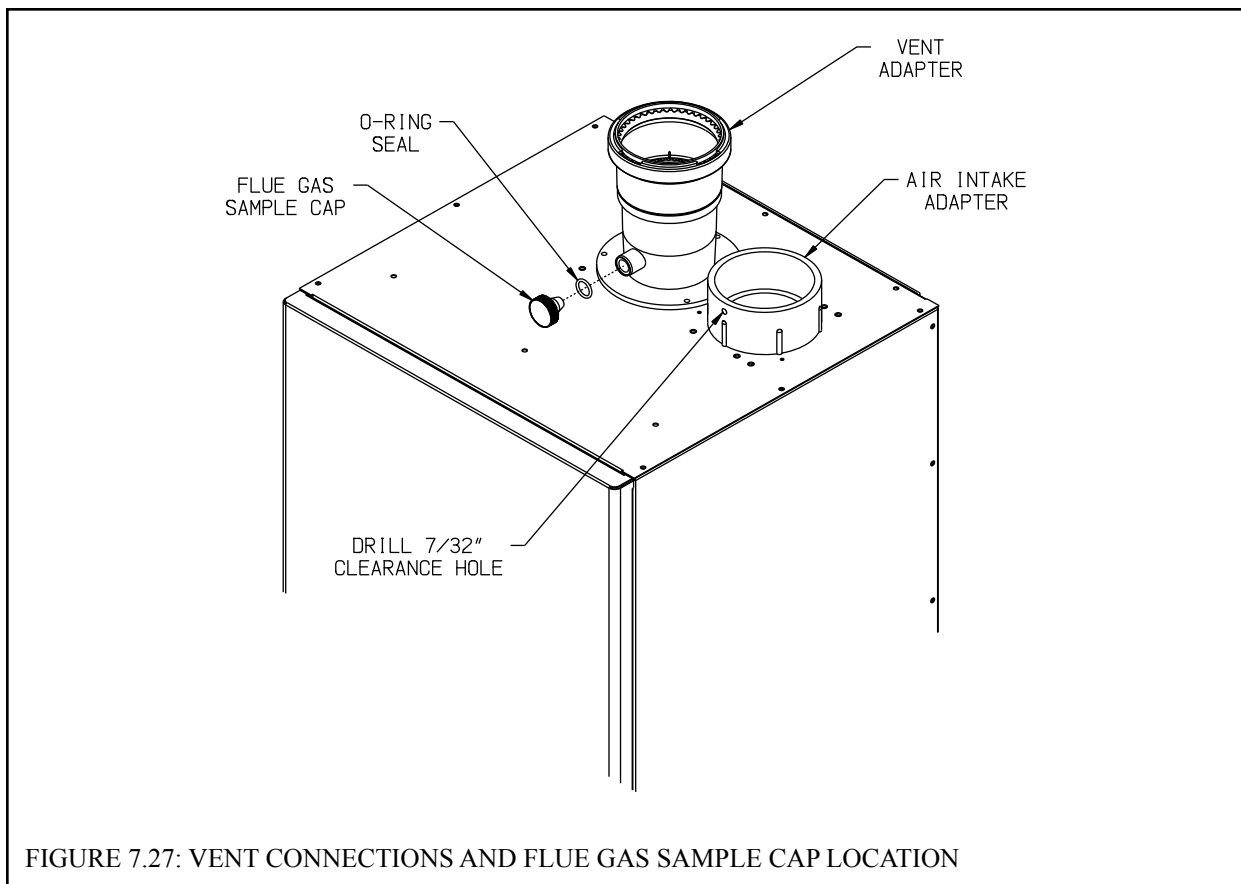

FIGURE 7.27: VENT CONNECTIONS AND FLUE GAS SAMPLE CAP LOCATION
- Never leave the boiler in operation without the gas sample cap in place (Figure 7.27)
- a. The vent adaptor has two different inside diameters. The smaller, lower, inside diameter accepts 3" nominal PolyPro (Figure 7.27). A locking ring in the adaptor prevents the vent pipe from coming out of the adaptor once it is inserted. Lubricate the upper gasket in the vent adaptor with soapy water and insert the first piece of 3" PolyPro into the adaptor until it bottoms out.